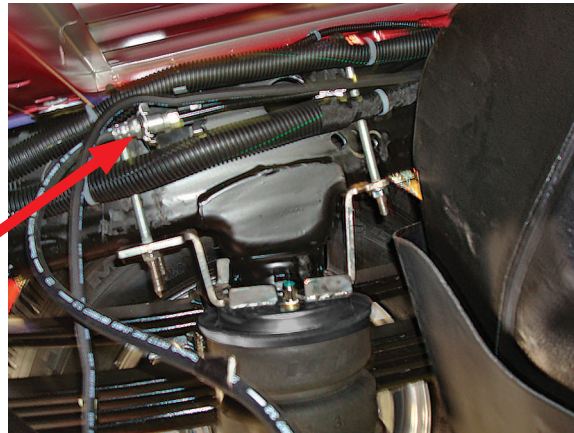

fig. 10
3. Insert two U-bolts (H) onto the top of the frame and through the upper bracket mounting holes (Fig. 10).
THE DRIVER'S (LEFT) SIDE HAS A BRAKE LINE AND A WIRING HARNESS RUNNING ALONG THE INSIDE OF THE FRAME. MAKE SURE THE U-BOLT IS BETWEEN THESE ITEMS AND THE FRAME (DO NOT PINCH THESE ITEMS) (FIG. 10).